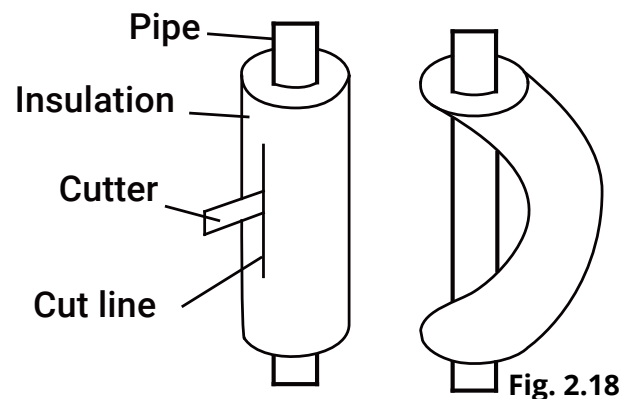

Fig. 2.18
5. As shown in **Fig. 2.18**, use a sharp cutter to cut the pipe insulation and bend the pipe after it is exposed. After bending, place the insulation back on the pipe and secure it with adhesive tape.